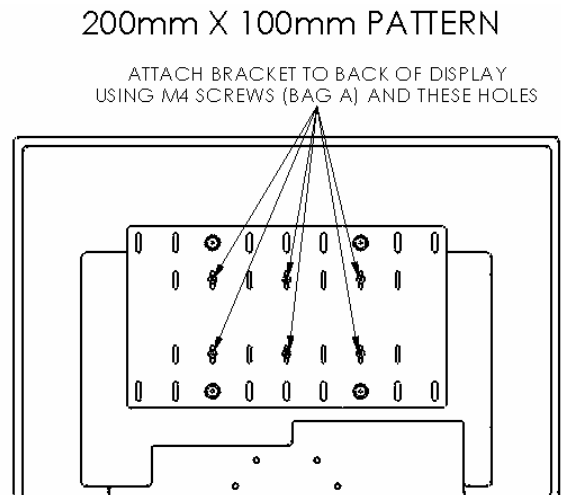

Figure 6. Display with 200mm x 100mm Hole Pattern
2. Attach the MSP-MSBTW1 (10) using the hole-pattern on the back of your display as shown in Figure 6.